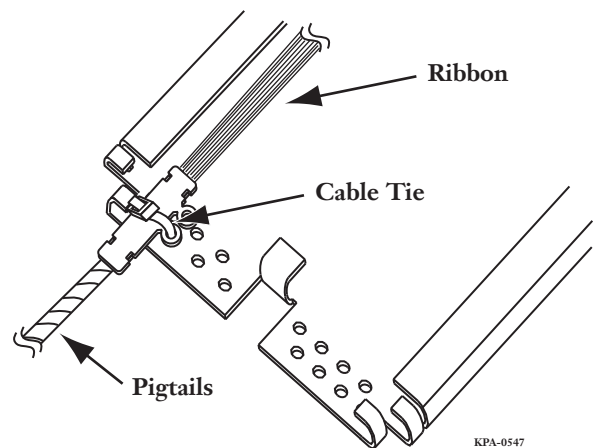

Figure 38
- Step 3:** Secure the ribbon fan-out body to the splice tray with a cable tie (Figure 38).